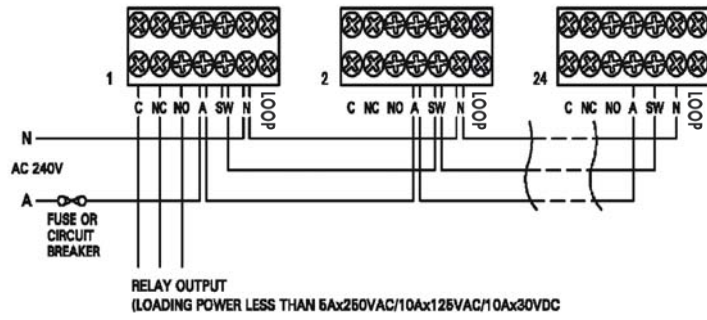

Figure 9.1
- 9.1.1 A relay output may have a power loading (See figure 9.1).